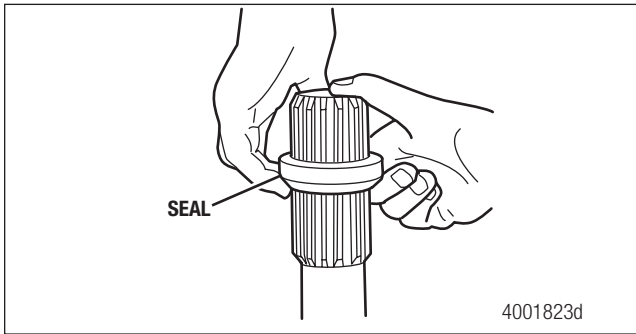
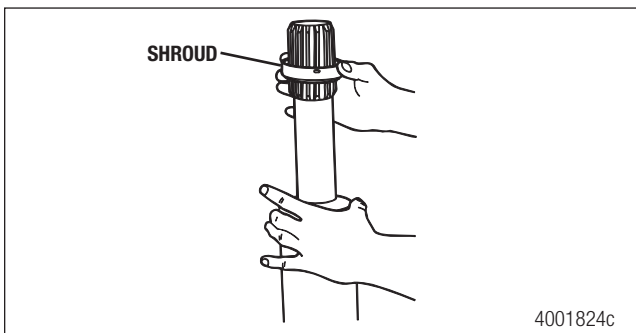

Figure 5.39
Figure 5.40
5. Remove the seal and shroud. Figure 5.39 and Figure 5.40.